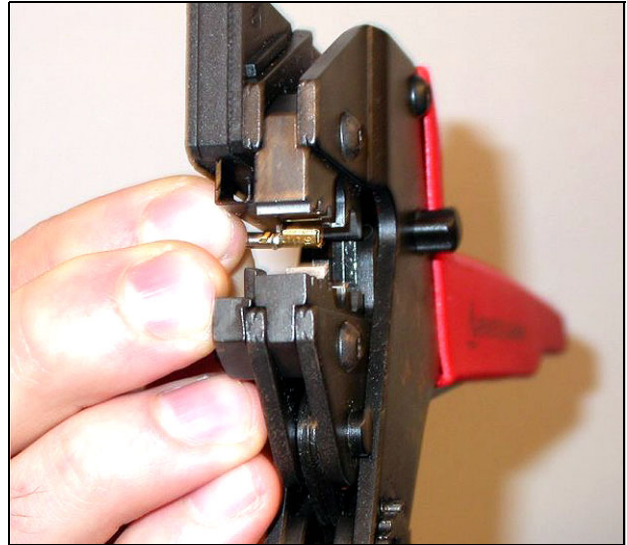
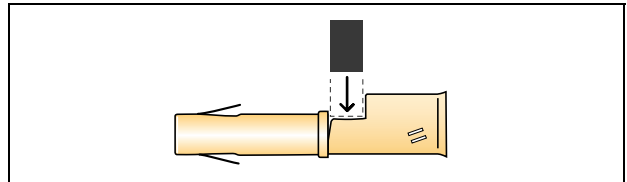

figure 22.12: Crimping a socket contact (1)
figure 22.13: Positioning a socket contact
- 10 Put a socket contact in the crimping tool (tool 3, see figure 22.12). The upper part of the crimping tool contains a ridge for positioning the socket contact in the tool (see figure 22.13).